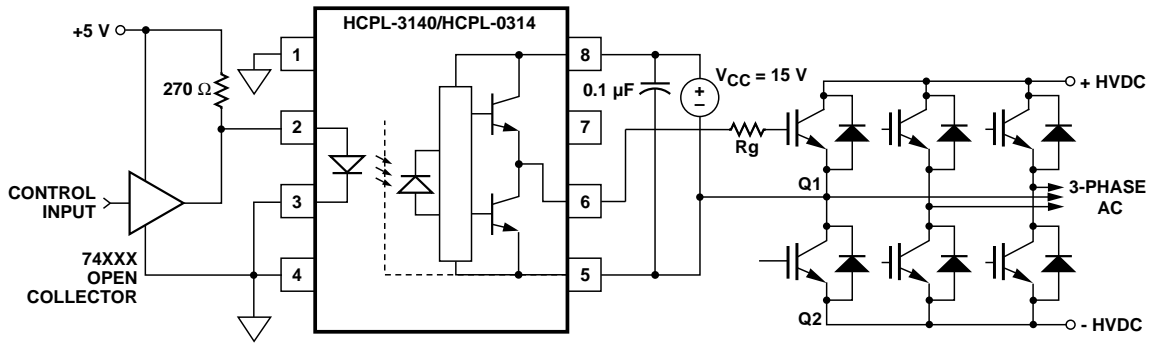
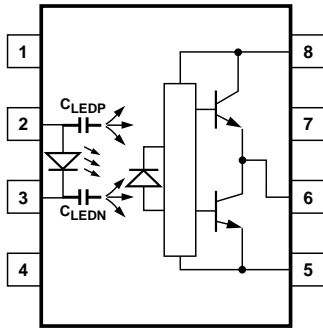
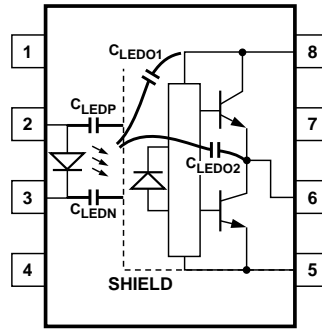

Figure 19. Recommended LED Drive and Application Circuit for HCPL-3140/HCPL-0314.
Figure 21. Optocoupler Input to Output Capacitance Model for Unshielded Optocouplers.
Figure 22. Optocoupler Input to Output Capacitance Model for Shielded Optocouplers.
HCPL-3140/HCPL-0314 on a small PC board directly above the IGBT) can eliminate the need for negative IGBT gate drive in many applications as shown in Figure 19. Care should be taken with such a PC board design to avoid routing the IGBT collector or emitter traces close to the HCPL-3140/HCPL-0314 input as this can result in unwanted
**Step 1:** Calculate Rg minimum from the IOL peak specification. The IGBT and Rg in Figure 19 can be analyzed as a simple RC circuit with a voltage supplied by the HCPL-3140/HCPL-0314.
where  $K_{ICC} \cdot Q_g \cdot f$  is the increase in ICC due to switching and KICC is a constant of 0.001 mA/(nC\*kHz). For the circuit in Figure 19 with IF (worst case) = 10 mA, Rg = 32 Ω, Max Duty Cycle = 80%, Qg = 100 nC, f = 20 kHz and TAMAX = 85°C:
Without a detector shield, the dominant cause of optocoupler CMR failure is capacitive coupling from the input side of the optocoupler, through the package, to the detector IC as shown in Figure 21. The HCPL-3140/HCPL-0314 improves CMR performance by using a detector IC with an optically transparent Faraday shield, which diverts the capacitively coupled current away from the sensitive IC circuitry. However, this shield does not eliminate the capacitive coupling between the LED and opto-coupler pins 5-8 as shown in Figure 22. This capacitive coupling causes perturbations in the LED current during common mode transients and becomes the major source of CMR failures for a shielded optocoupler. The main design objective of a high CMR LED drive circuit becomes keeping the LED in the proper state (on or off) during common mode transients. For example, the recommended application circuit (Figure 19), can achieve 10 kV/μs CMR while minimizing component complexity.
supplied by the LED, and it is not recommended for applications requiring ultra high CMRL performance. The alternative drive circuit which like the recommended application circuit (Figure 19), does achieve ultra high CMR performance by shunting the LED in the off state.